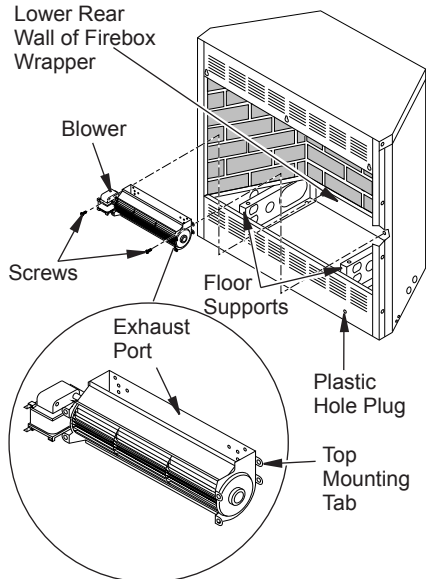

Figure 9 - Mounting Blower to Firebox
2. Place blower against lower rear wall of firebox wrapper with exhaust port directed upward. Align holes in top mounting tabs of blower with holes in wall of wrapper (see Figure 9). Using 2 screws provided, mount blower and tighten screws securely.
4. Locate plastic hole plug installed in the 3/8" diameter opening in the lower right side of firebox front panel (see Figure 9). Remove plastic plug and discard.